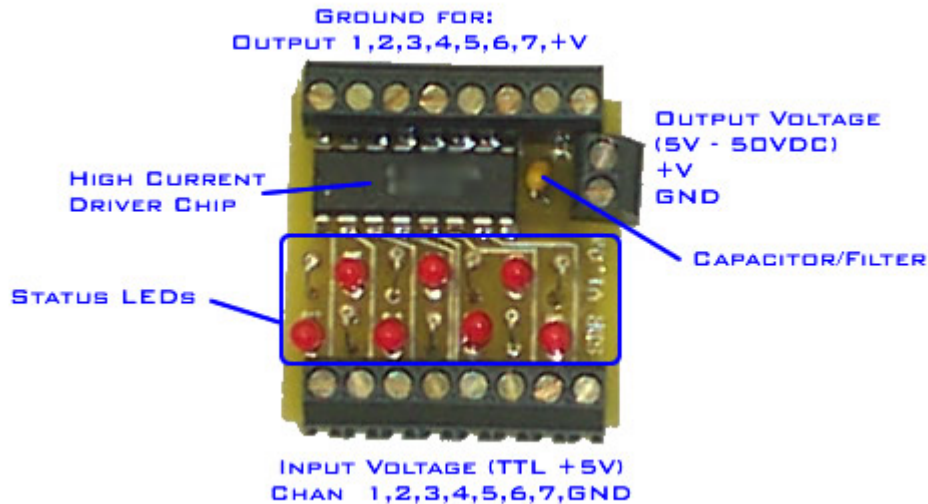

Figure 4: TTL High Current Driver with Status LEDs
1. Start by laying the board out in front of you. The Label should be on the bottom right topside. Refer to Figure 4.
2. Insert all the LEDs as shown in Figure 4 in a staggered location. The long leg of the LED should be towards the TTL Input edge of the board (they will not work if put in the other way).
3. Insert all the resistors as shown in Figure 4. The orientation of the resistor is not important.
4. Insert the capacitor as shown in Figure 4. Orientation is not important.
5. Install the Screw Terminals (if provided) as shown in Figure 4.
6. Insert the high current driver IC. The orientation is important. The chip will be shorted and will not work if put in wrong. Pin one goes in the square pad hole such that the notch on the chip is closest to the edge of the board (away from the capacitor). Refer to Figure 4.
7. Attach 5-50VDC to the Output Voltage using the polarity shown in Figure 4. Turn on the power, no sparks or smoke should appear at this time.